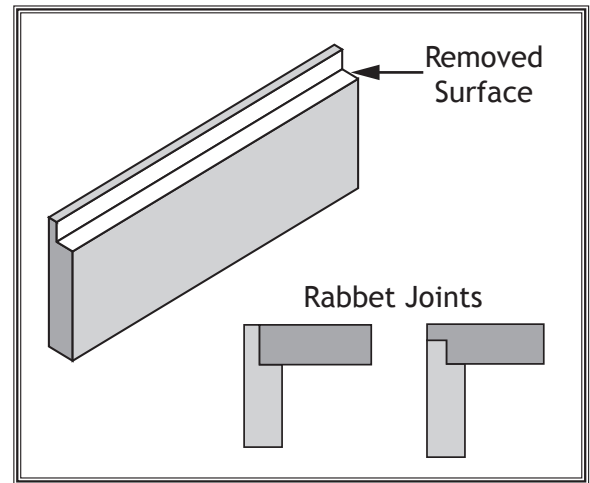

Figure 30. Rabbet joints.
A rabbet cut removes a portion of a workpiece edge, so it fits together with an opposing, equally sized rabbet cut on another workpiece (see **Figures 30–31**). This is a classic method of joining two workpieces that is simple, yet strong.
5. Remove cutterhead guard if necessary to perform operation (see **Figure 30**).